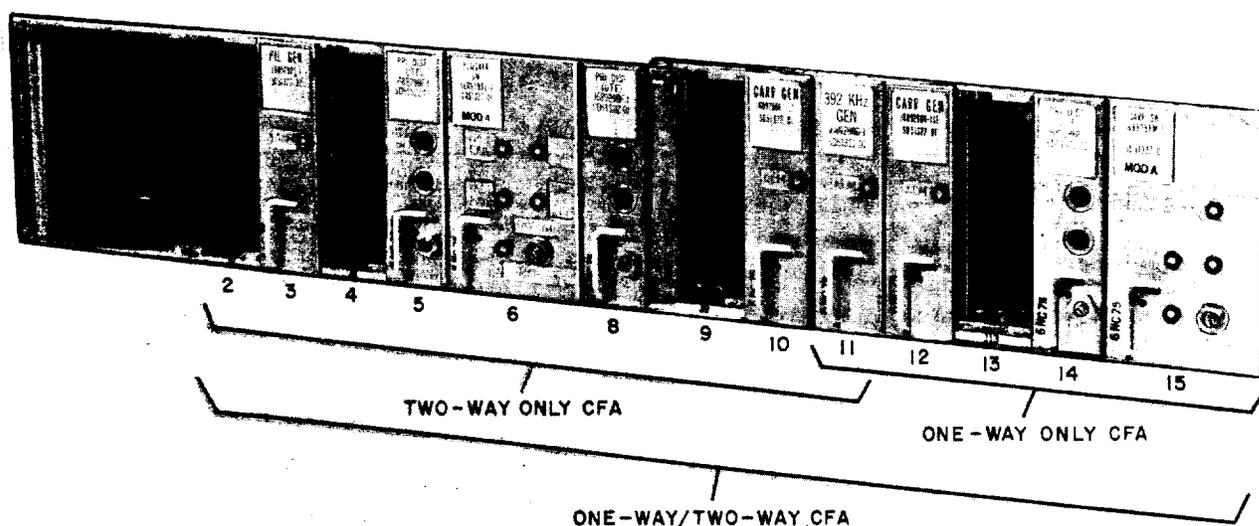

Fig. 4—A6 CFA Carrier Supply Arrangement in J98626() Frames
- 44 Insert, one at a time, plug-in units in the CFA carrier supply shelves (Fig. 4) according to the type of CFA operation (1-way or 2-way) to be used. See Table C.